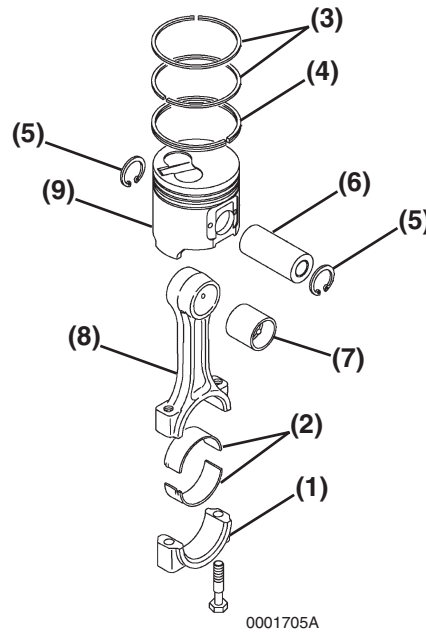

Figure 6-86
5. Lubricate and install the wrist pin (Figure 6-86, (6)) through the piston and connecting rod.
6. Reinstall the second circlip (Figure 6-86, (5)) and ensure it is securely seated in the groove.